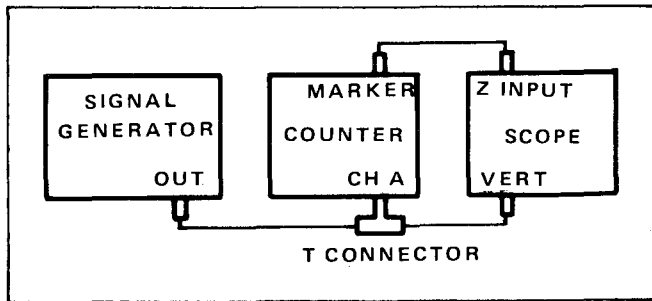

Figure 2.5 - Marker Hookup
- b. Apply a 100 Hz @ .3V P.P. signal to the channel A input and the oscilloscope vertical input; connect the marker output on the back of the counter to the oscilloscope Z axis (see figure 2.5).